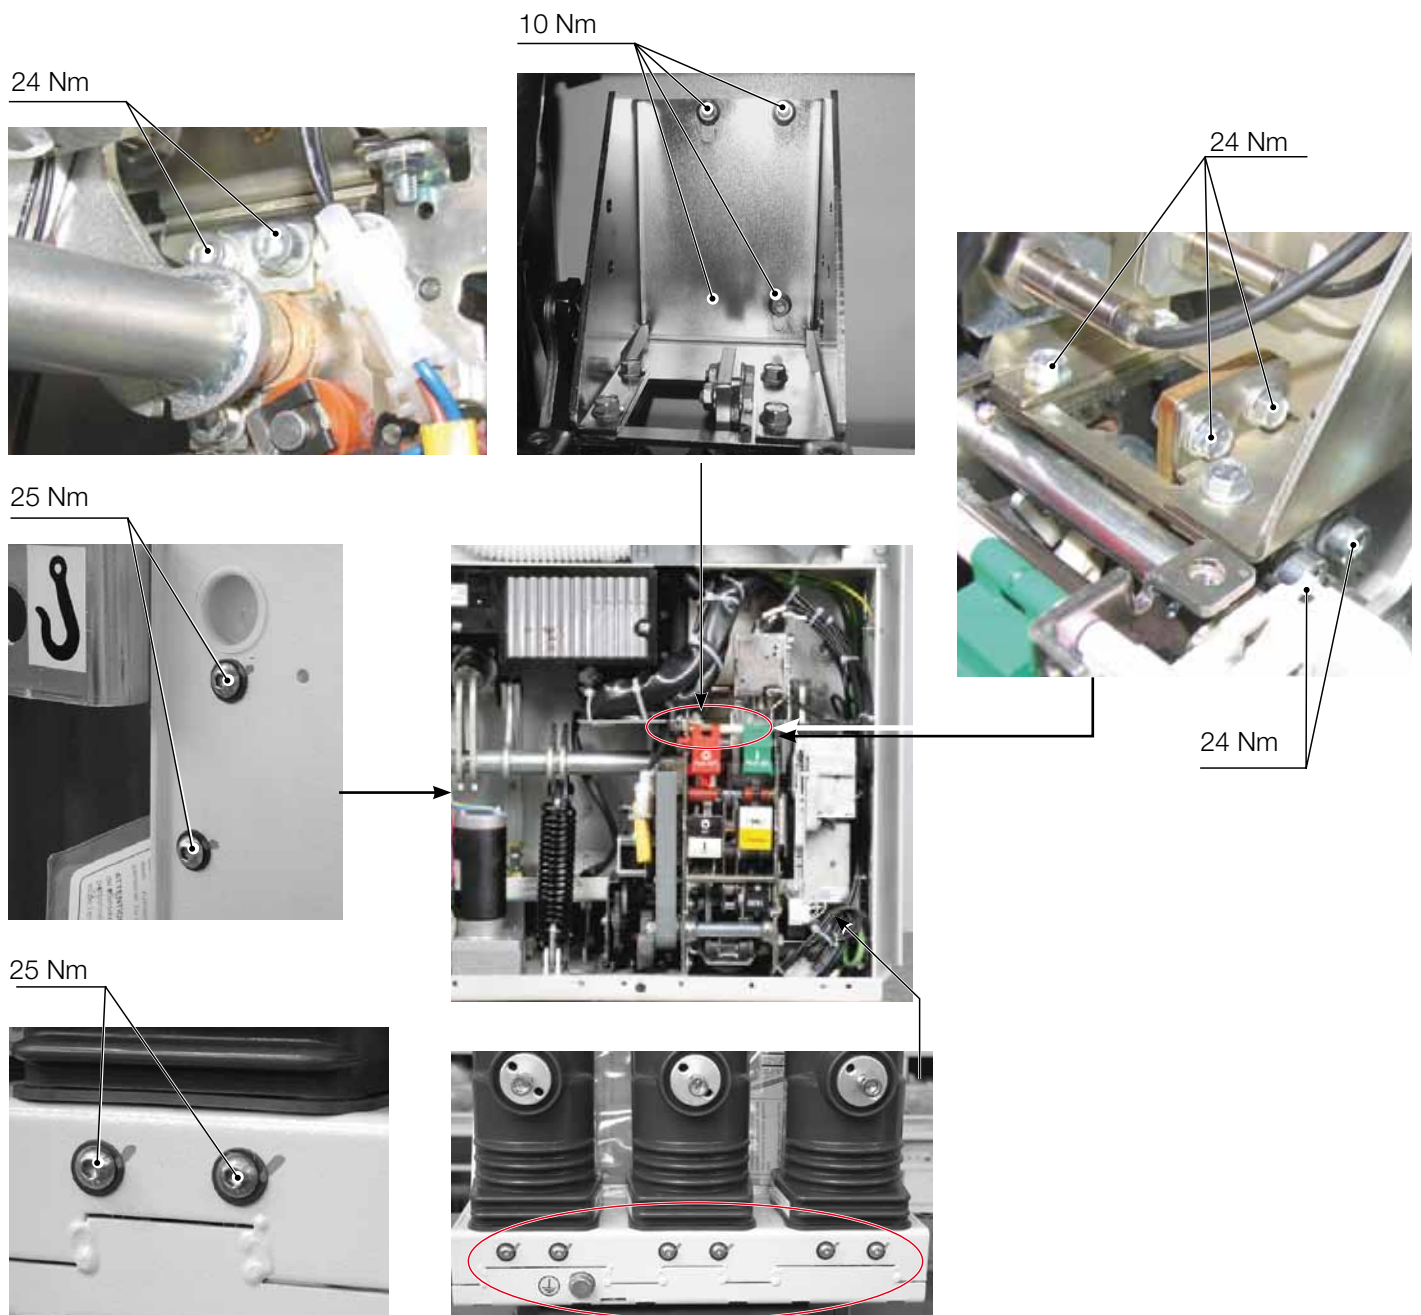

Fig. 12
- The screws and nuts are tightened in the factory and correct tightening is marked with a coloured sign. No further tightening operations should be required during the operating life of the circuit-breaker. Should the screws or nuts need to be re-tightened after maintenance operations, always replace them and comply with the values given in fig. 12.